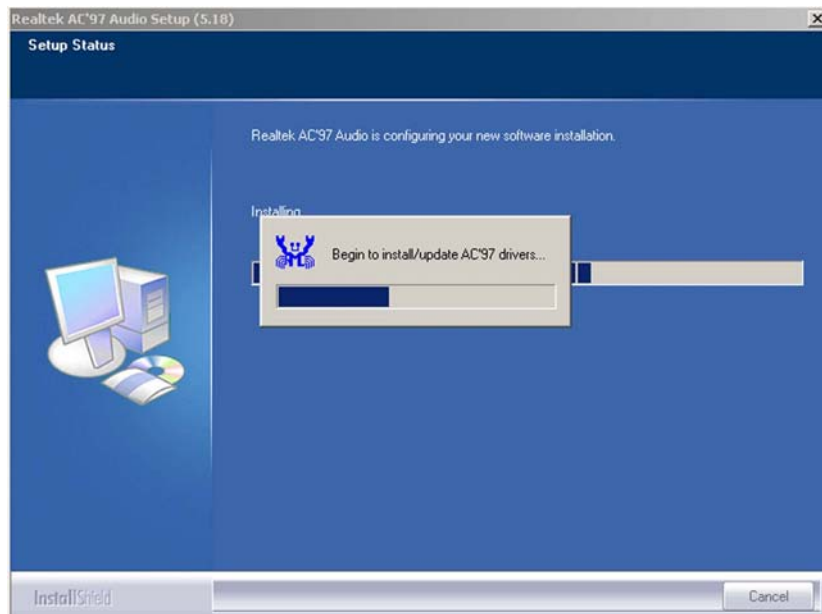

Figure 6-18: Audio Driver Installation Begins
Step 8: At this stage the clicking the “YES” button in **Figure 6-17** appears, the installation of the driver begins. See **Figure 6-18**.